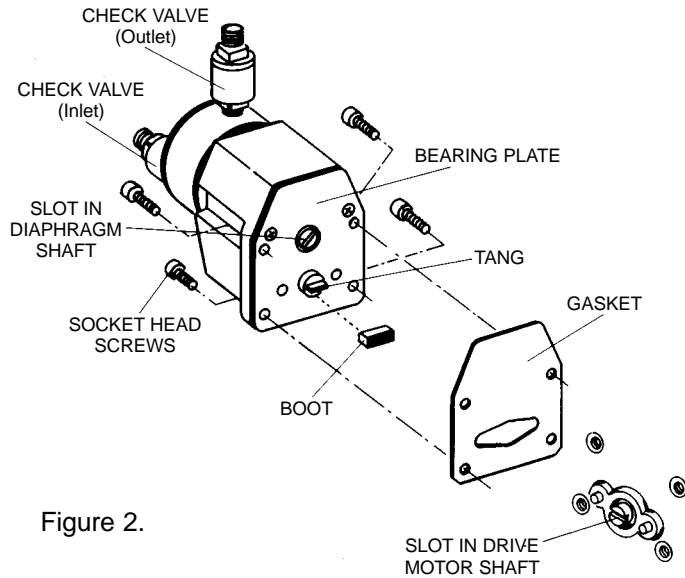

Figure 2.
- ❑ Disconnect Pump Head from Drive by removing 4 SOCKET HEAD-SCREWS. (See Fig. 2.)
- ❑ To remove the worn DIAPHRAGM, hold a screwdriver in the slot of the DIAPHRAGM shaft (at back of Pump—see Fig. 2) while simultaneously loosening the LOCKING NUT adjacent to the DIAPHRAGM. Use a 7/16 in open end wrench.
- Install the plastic BOOT over the TANG at the end of the pump shaft (Fig. 2). This BOOT should be inspected and replaced when worn or at 1500 hour intervals.
- Disconnect the Pump Head from Drive. Remove 4 SOCKET HEADSCREWS. (See Fig. 2.)